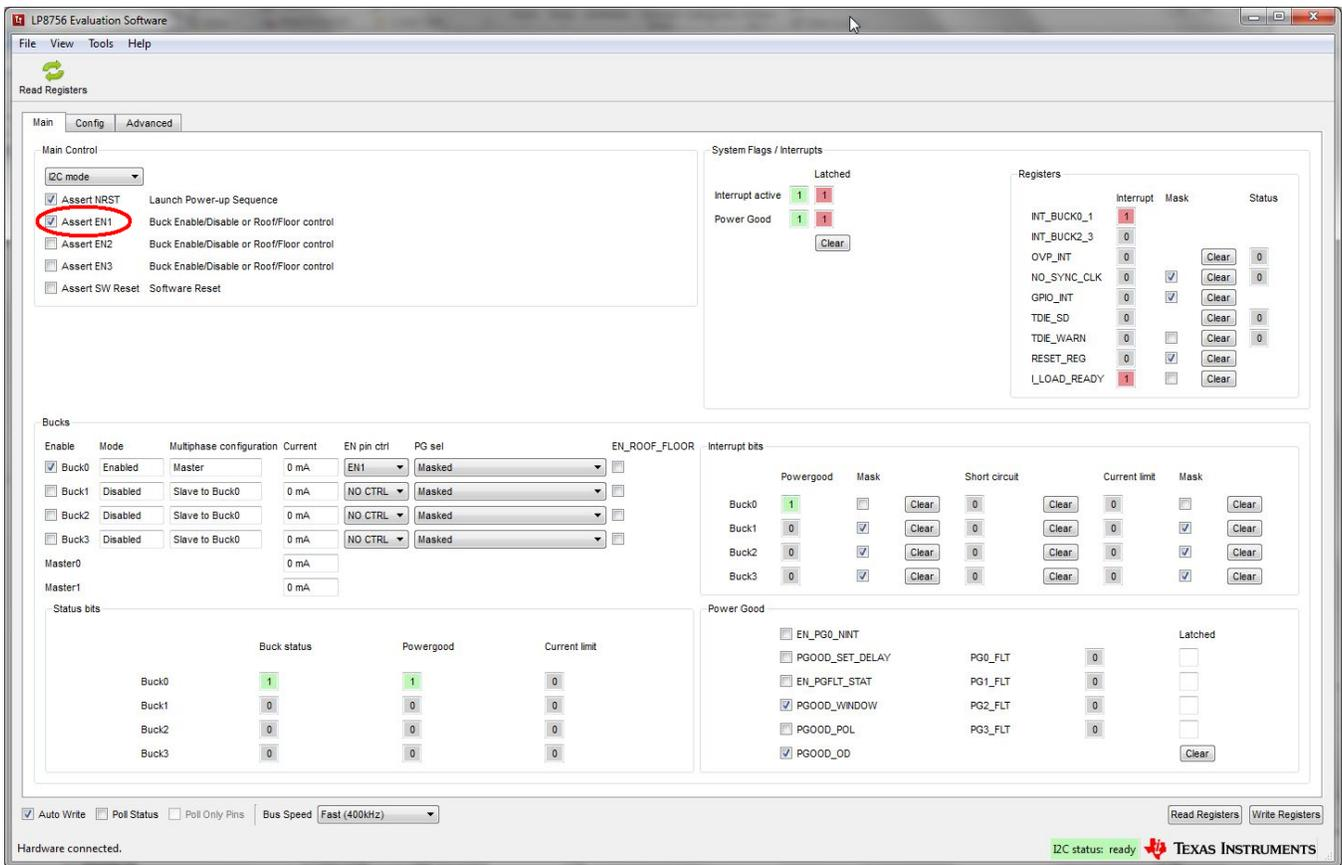

Figure 11. Assert EN1
5. Click on Assert ENx to enable any BUCKs that are assigned to that ENx pin and are enabled (see Figure 11).
The Main tab (see for example Figure 11) has the elemental controls for the EVM and provides a view to the chip status. Starting from top, the main controls are: